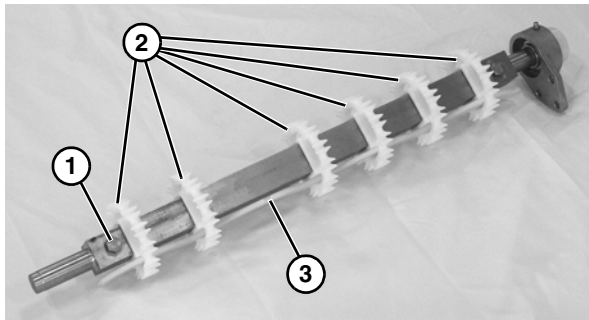

Figure 79
5. Remove bolt (**Figure 79, item 1**), to slide sprockets (**Figure 79, item 2**) from spindle shaft and sprocket alignment bar (**Figure 79, item 3**).